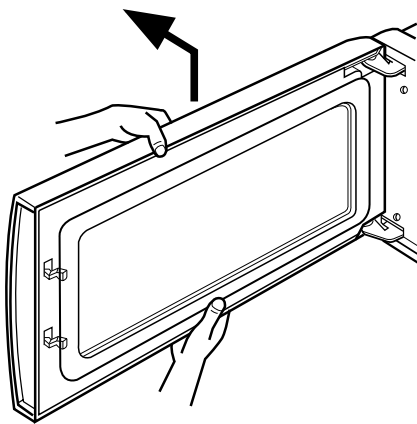

Figure 14
E. REMOVING DOOR (Figure 14)
- (1) Remove the vent grille by removing two screws securing it to the Outer Case loosening.
- (2) Lift up and draw the door.